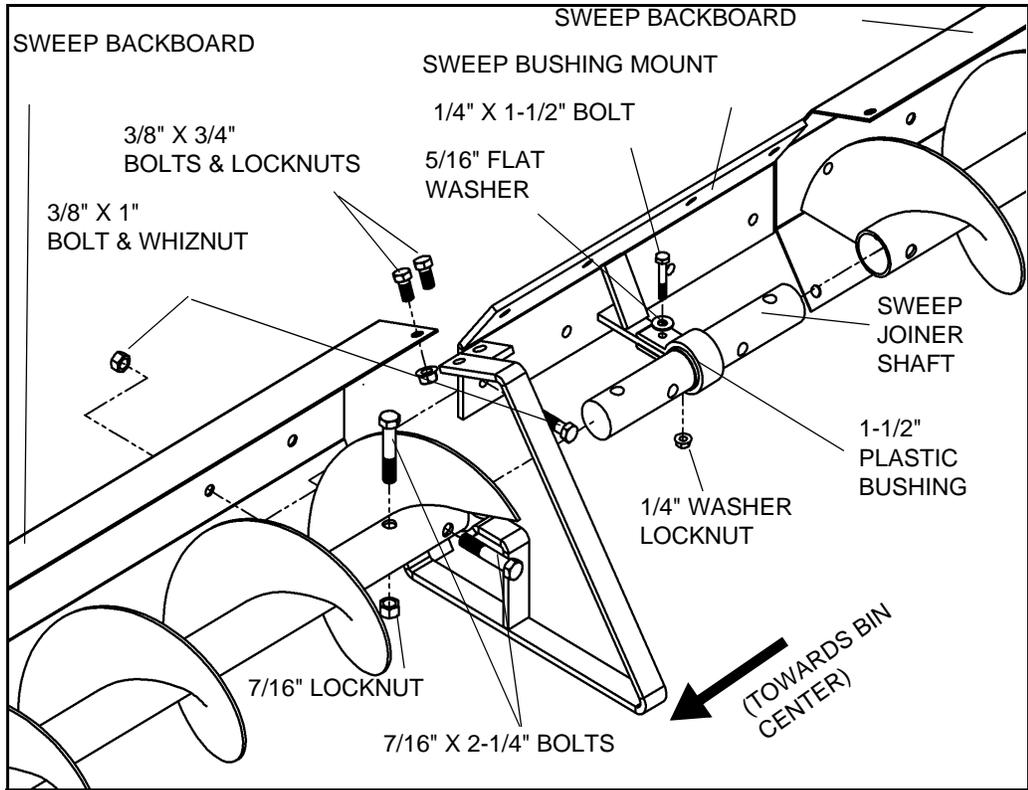

Figure 3.17
5. Install 1-1/2" plastic bushing loosely onto sweep bushing mount (as seen in Figure 3.17). This bushing remains in place while completing the following steps.
9. Install anti-tip bar to the sweep backboards with four 3/8" x 3/4" bolts & locknuts as shown in Figure 3.17. Tighten securely.